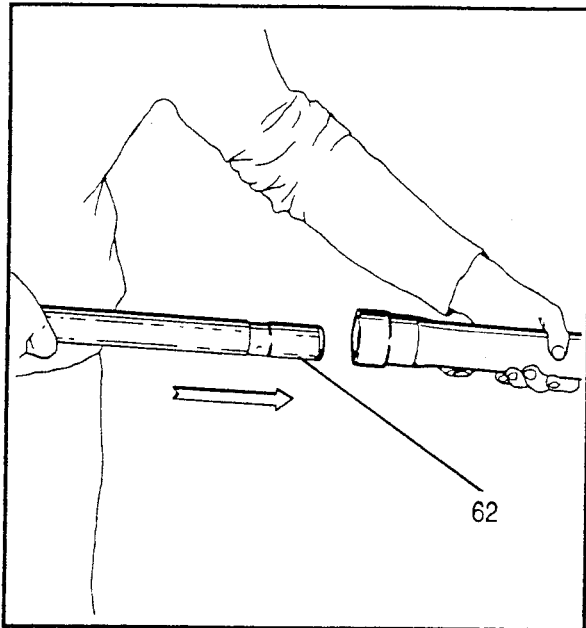

Figure 5-25. Assemble Slider/Tube
1. See Figure 5-25. Insert the tube (62) into the slider.